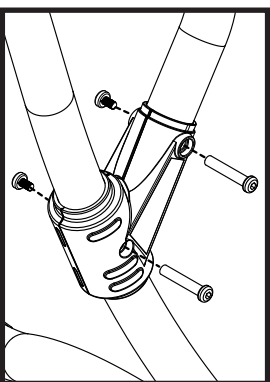

Figure 11
Figure 11 - 11a: Align (2) Handle Bracket Bolts through the Bolt holes in the Handle Bracket Set and loosely secure the (2) Handle Bracket Screws into the Bolts using (2) 5mm Allen Wrenches.